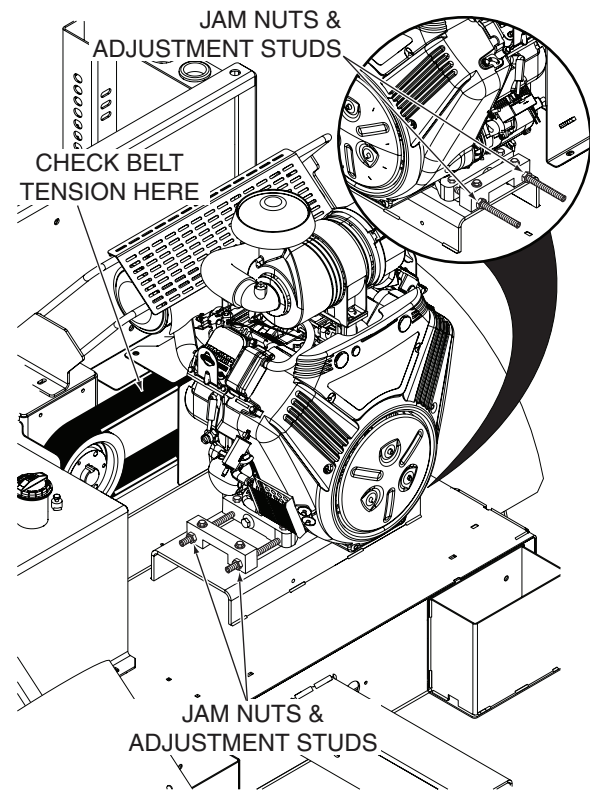

Figure 5-2. Impeller Drive Belt Tension
4. Loosen the jam nuts on all four adjustment studs. See Figure 5-2.